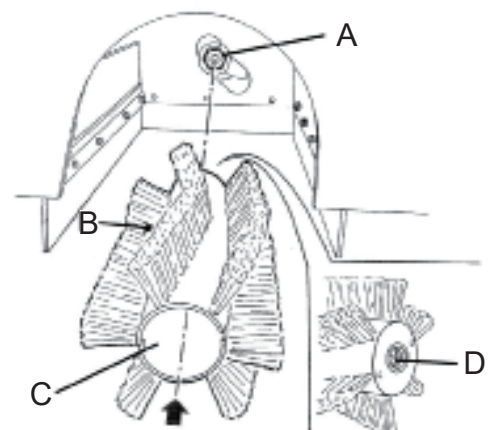

Figure5
- 7) Check that the drive hub (A, Fig. 5) is free from dirt or foreign materials (ropes, rags, etc.) accidentally rolled up.
- 8) The new main brush must be installed with the bristles rows (B, Fig. 5) bent as shown in the figure.
- 9) Install the new main brush (C, Fig. 5) and ensure that the mesh (D) correctly fits into the relevant drive hub (A).